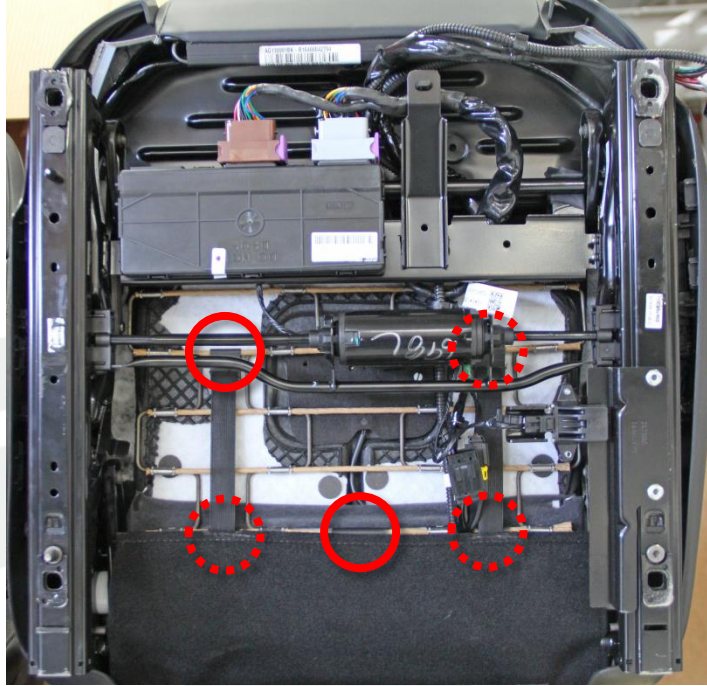

Figure 1
- Unhook the 5 J-clips that secure the seat upholstery to the cross wires on the flex mat (Figure 1).